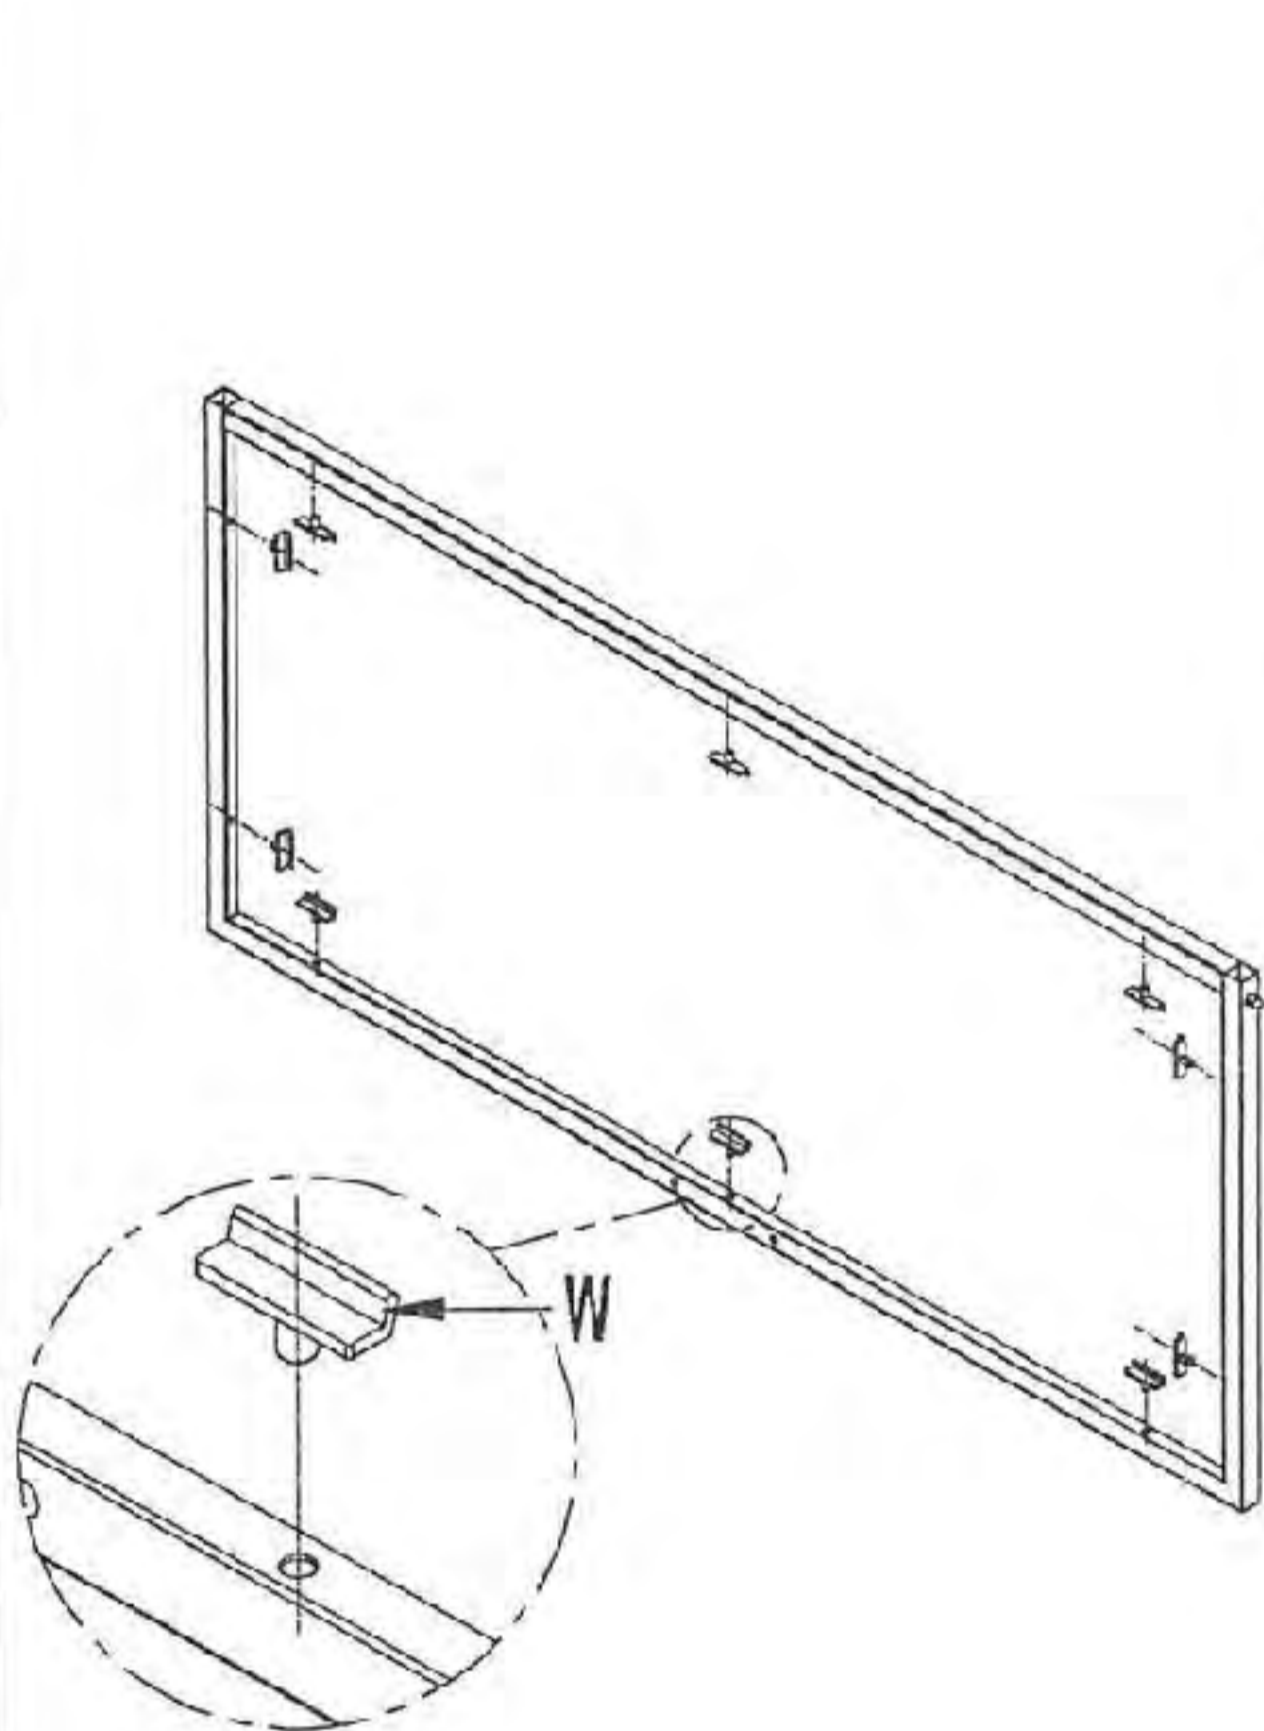

Figure 9
6. Turn the installed PET board door panel over and press the door panel buckles into the holes in the direction shown in Figure 9 to fix it.